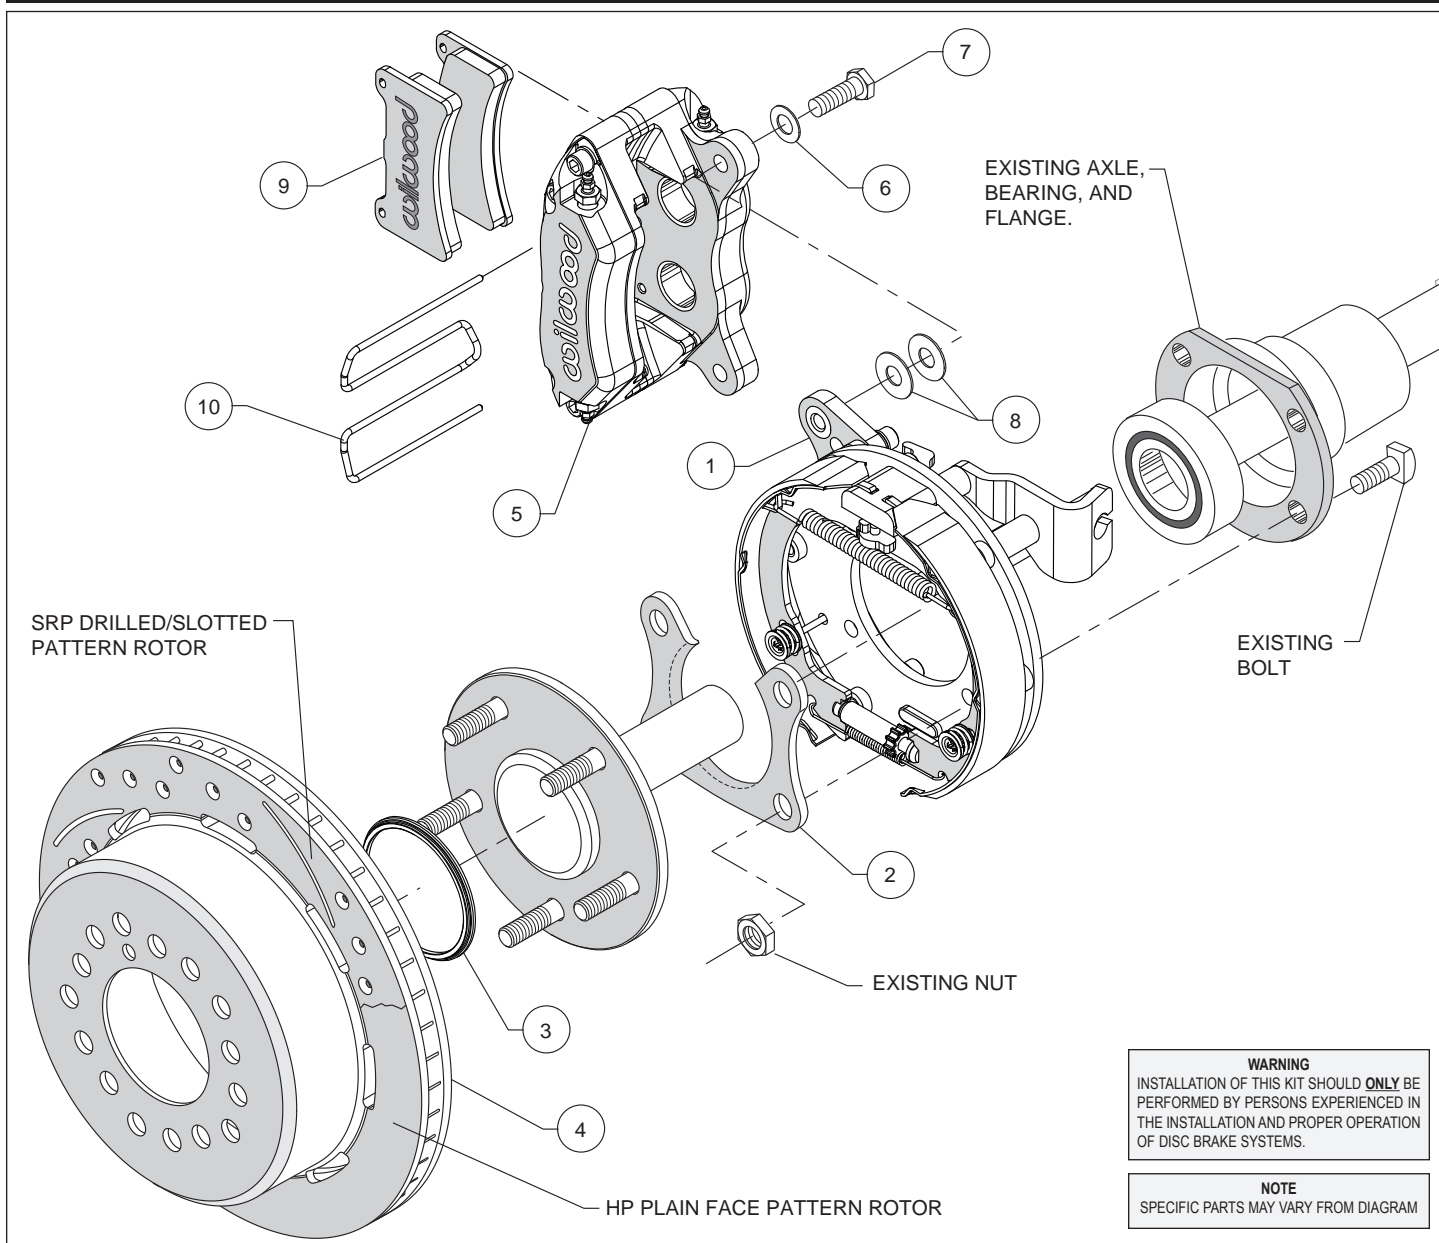
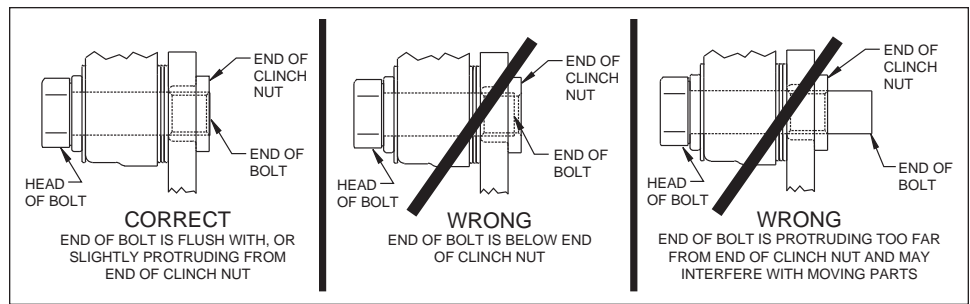

Figure 1. Typical Installation Configuration
Figure 5. Clinch Nut Engagement Diagram
**Assembly Instructions** (numbers in parenthesis refer to the parts list, and Figure 1 on the preceding pages): **CAUTION:** All mounting bolts must fully engage clinch nuts. Be sure to check that all bolts are either flush or protruding through flanged side of clinch nut after shimming, Figure 5.
- Orient the bracket assembly (1) as shown in Figure 1 and Photo 1 and slide it onto the axle. Insert the axle and bracket into the axle housing. Ensure that the bracket assembly backing plate fits flush against the axle housing flange.
- Install the bearing retainer (2) with the opening pointing upward and the lip facing inward (toward the bearing), as shown in Figures 1 and 4, and Photo 2. Secure retainer and bracket assembly to the axle housing flange using the Original Equipment Manufacturer (OEM) bolts and nuts, Figure 1. Apply red *Loctite*® 271 to the OEM bolt threads and torque to OEM specifications.
- Slide the rotor registration adapter (3) onto the axle register on the axle flange with the smaller O.D. facing toward the rotor/hat (4), Photo 3. Align the correct hole pattern in the rotor/hat with the stud pattern on the axle flange and slide into place, Figure 1 and Photo 4. **NOTE:** The rotor/hat must fit flush against the axle flange or excessive rotor run out may result. Install three lug nuts (finger tight) to keep the rotor/hat assembly in place while continuing with the installation. **NOTE:** Some OEM and after market axles come with stud sizes larger than 0.50" diameter. Verify stud size and have a qualified machine shop drill the bolt circle of the hat/rotor to the correct stud size, if necessary.
- NOTE:** Please reference the caution statement at the beginning of the assembly instructions. Mount the caliper (5) onto the caliper mounting bracket (1) using bolts (7) and washers (6), as shown in Figure 1. Initially place two .035" thick shims (8) on each bolt between the caliper and the bracket, Photo 5. Temporarily tighten the mounting bolts and view the rotor (4) through the top opening of the caliper. The rotor should be centered in the caliper, Photo 6. If not, adjust by adding or subtracting shims between the bracket and the caliper. Always use the same amount of shims on each of the two mounting bolts. **NOTE:** The end of each bolt must be flush with or slightly protruding from the head of the clinch nut, as shown in Figure 5. If necessary place spare shims between washer (6) and caliper mounting ear to achieve the proper clinch nut engagement. Once the caliper alignment and clinch nut engagement are correct, remove the bolts one at a time, apply red Loctite® 271 to bolt threads, and torque to 40 ft-lb.